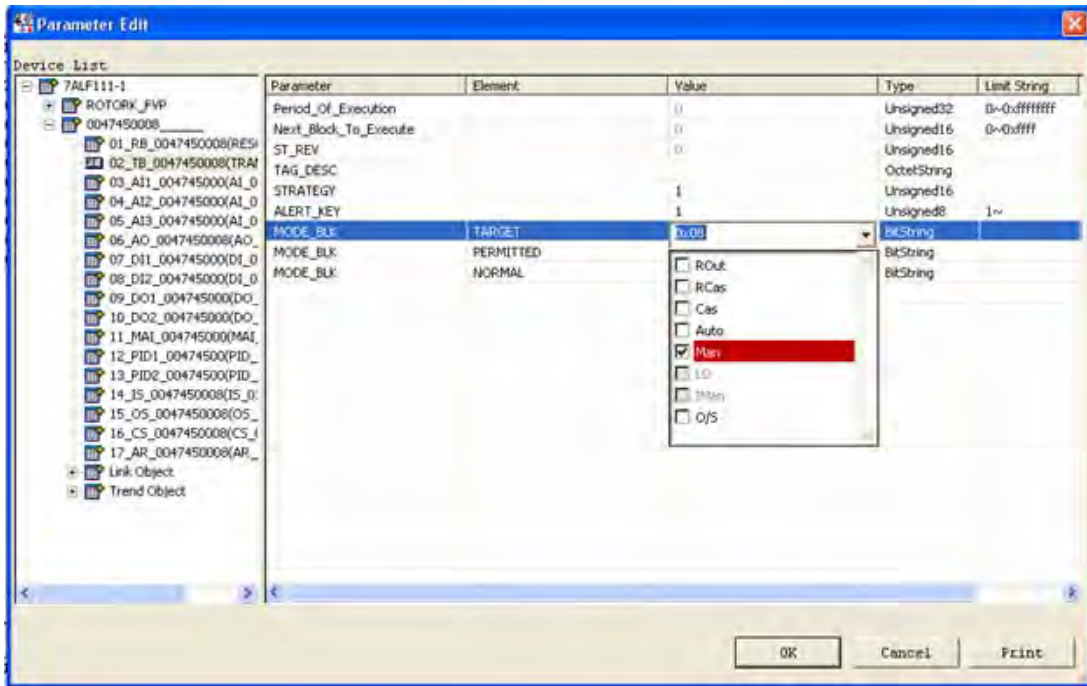

Figure 80 Parameter Value Modification
1. Click on the selected parameter value to allow modification of the parameter value (Figure 80).